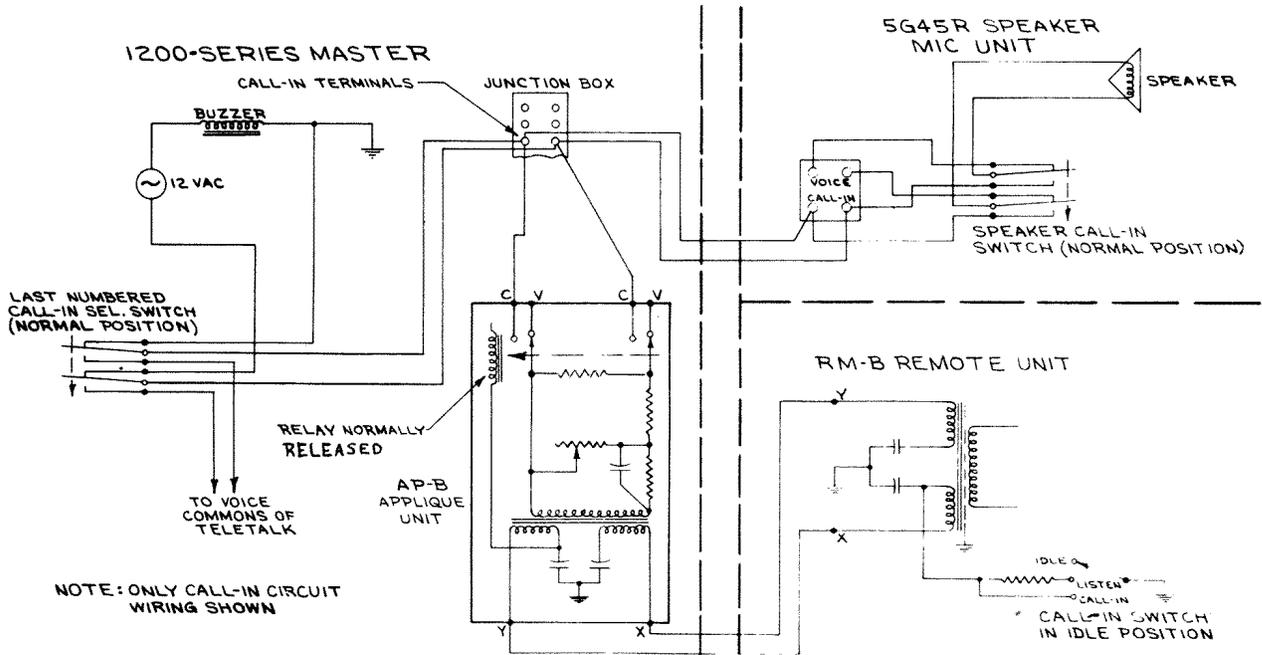

Fig. 10 - Call-In Circuit
normal position of the master station's call-in key (last key with red dot) the voice (call-in) line is connected in series with the buzzer and a 12-volt ac supply. When a call is originated at a speaker station, the call-in key is operated, connecting the speaker in series with the call-in line and buzzer at the master station. Thus, the buzzer will be heard at both the master and speaker stations. The person at the master station operates his call-in key to connect the call-in line to the amplifier and then determines who is calling, using the talk-listen switch. The call-in key must be operated at the speaker station until the person at the master station determines who is calling and operates the selector key of this station. (See Figure 10.)
3.10 The call-in feature is standard on all zero-level speaker stations. When a call is originated from a speaker station, the call-in switch is momentarily operated to the talk position and released to the listen position. This operates a relay in the applique unit, which completes the master station's buzzer circuit. The buzzer tone is heard at both the master and speaker stations. (See Figure 10.)